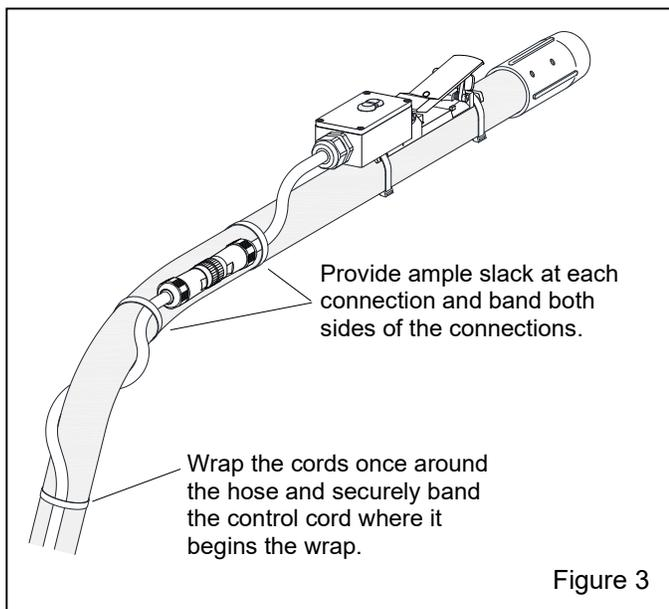

Figure 3
2.2 Connect Control Handle to the Cord and Blast Hose – Figure 3
2.2.1 Connect the control cord to the RLX whip cord and wrap the cords once loosely around the blast hose, as shown in Figure 3. **Note: The initial cord from the control panel comes with a twist-lock connector on one end and a lo-profile connector on the other end. Extension cords have lo-profile connectors on both end. Refer to the remote control operations manual for extension cords.**
2.2.2 Band the cord to the hose on both sides of the cord connections, as shown in Figure 3.